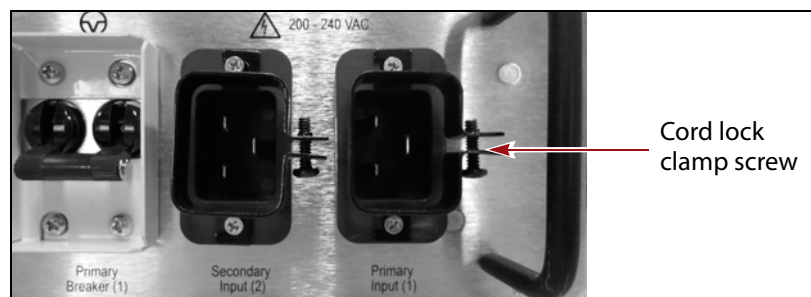

Figure 236 Install the cord locks on the power cords.
7. Place a cord lock over the connector on the end of the power cord that connects to the library. Orient the cord lock as shown in Figure 236.
9. Tighten the cord lock clamp screws (shown in Figure 236).